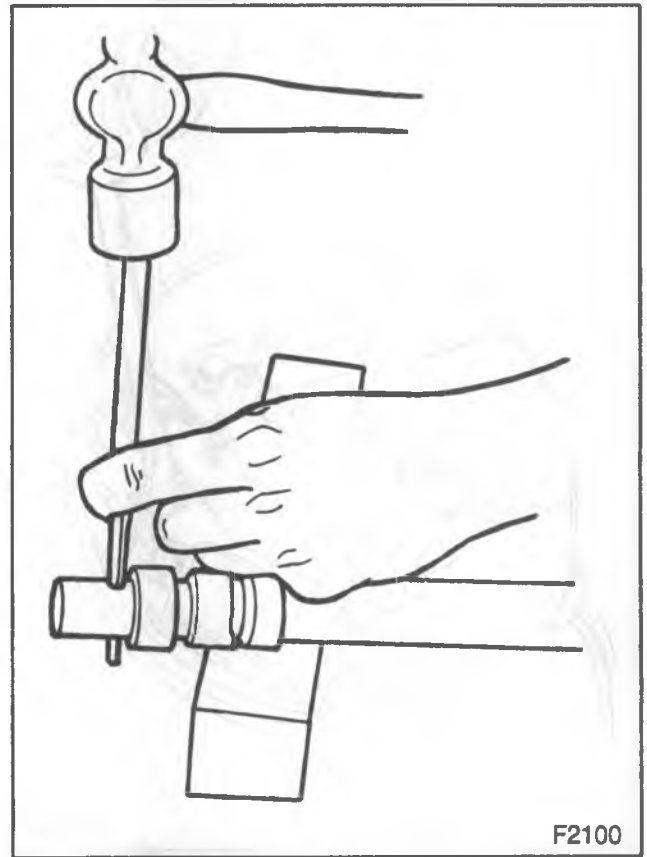

Figure 10—Removing the Roll Pin
12. Roll pin (27) from the shaft (26) (figure 10).
13. Driven gear (29) on distributor for a 6-cylinder engine.
14. Driven gear (29), shim washer (31) and thrust washer on distributor for an 8-cylinder engine.
15. Timer core shaft (26) from the housing (30).